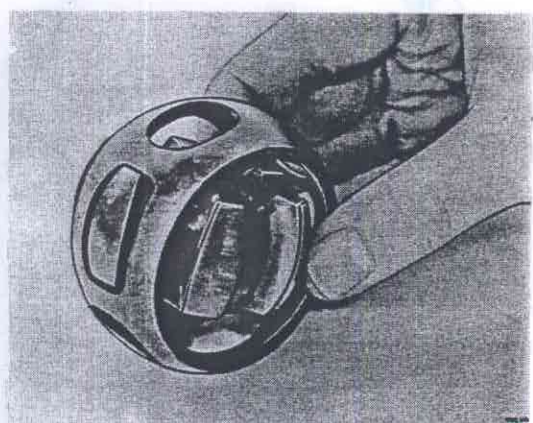

Fig. 46-90. Removing the flange
4. Rotate the flange according to Fig. 46-90 and take it out of the cage.